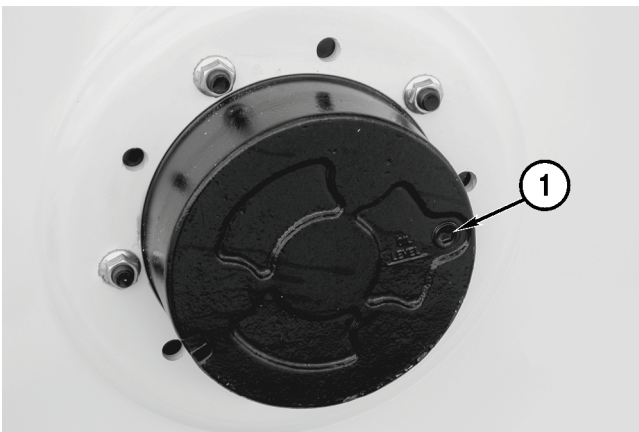

Figure 5-43
The planetaries are located on each rear wheel. The plug (**Figure 5-43, 1**) on the planetary serves as the drain and fill location.
5. Install the plug (**Figure 5-43, 1**) and tighten.